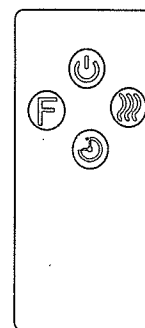

Figure 5
2. Using the multi-function remote control (Figure 5), functions same as control panel